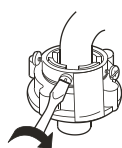

Figure 4
3. Dismantle the protecting cover of the drain outlet at the other side (method the same as the bushing). Install the bushing as per indicated in Figure 4.
3. Fasten the four screws evenly. See to Figure 4.